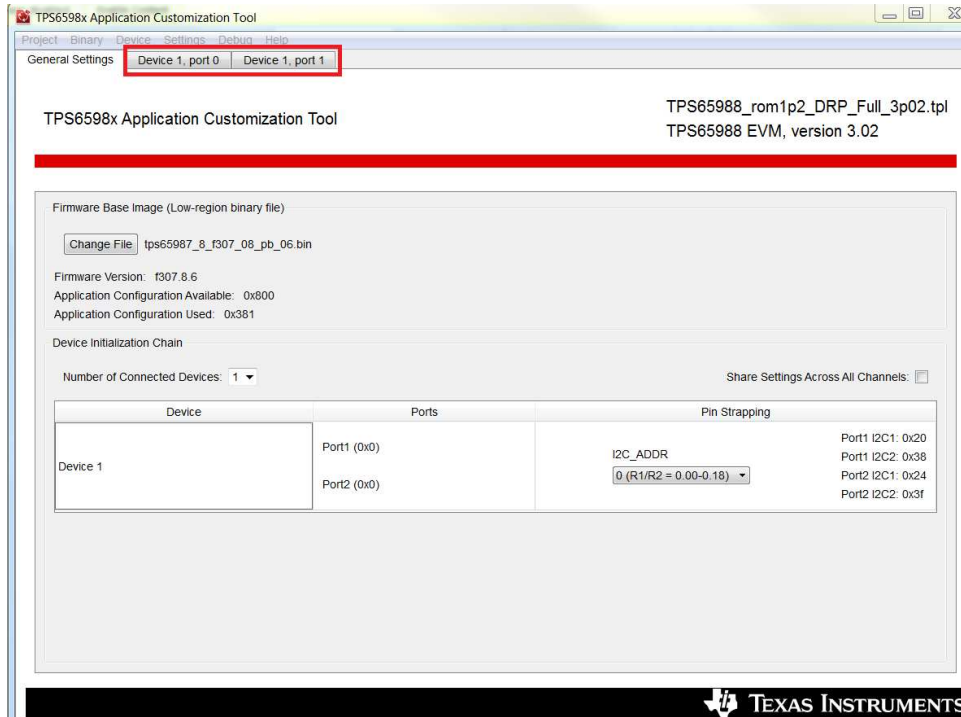

Figure 1. Main Window of TPS6598x Application Configuration Tool
1. Click on the desired port to be programmed (Device 1, port X), as shown in Figure 1.